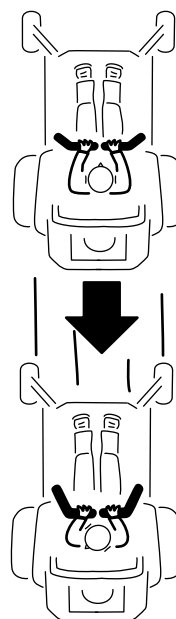

Figure 21
2. To go backward, slowly pull the motion-control levers rearward (Figure 21).